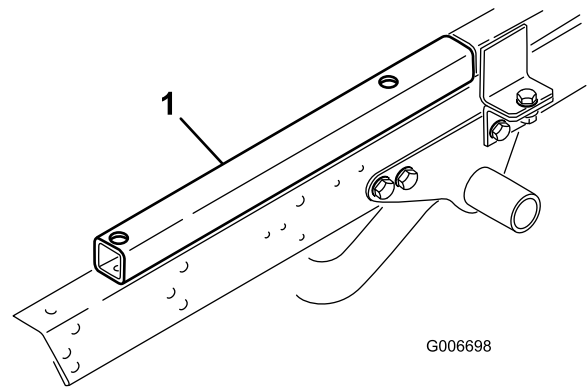

Figure 8
1. Remove any accessories mounted to top of frame in forward position such as a 1/3 bed, power platform, H.D. Hitch Frame extension tubes (Figure 8), etc.
1. Remove any accessories mounted to top of frame in forward position such as a 1/3 bed, power platform, H.D. Hitch Frame extension tubes, etc. (Figure 8),